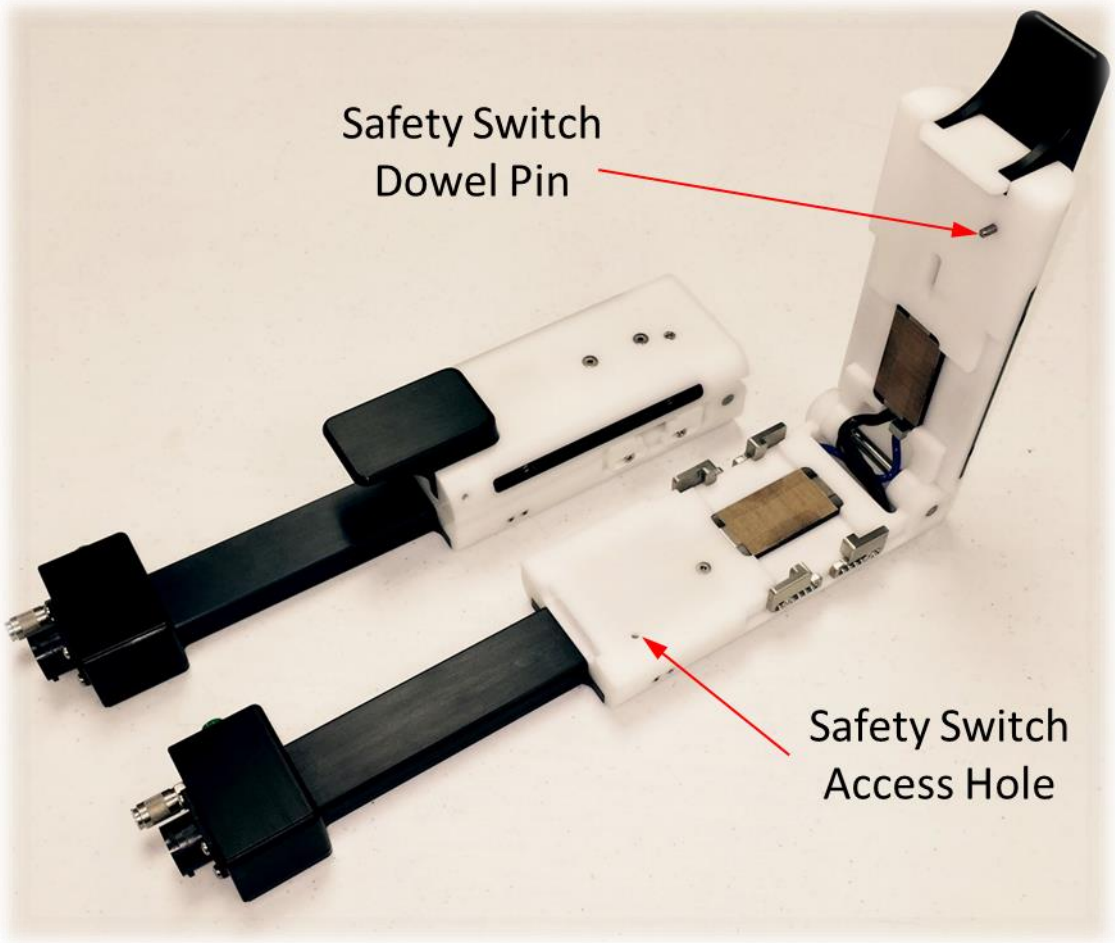

Figure 1.4 Sealing head with safety switch
- A snap action switch on the 4161 and 4162 sealing heads prevents the sealing cycle from starting unless the sealing head is properly closed. See Figure 1.4 on page 7.